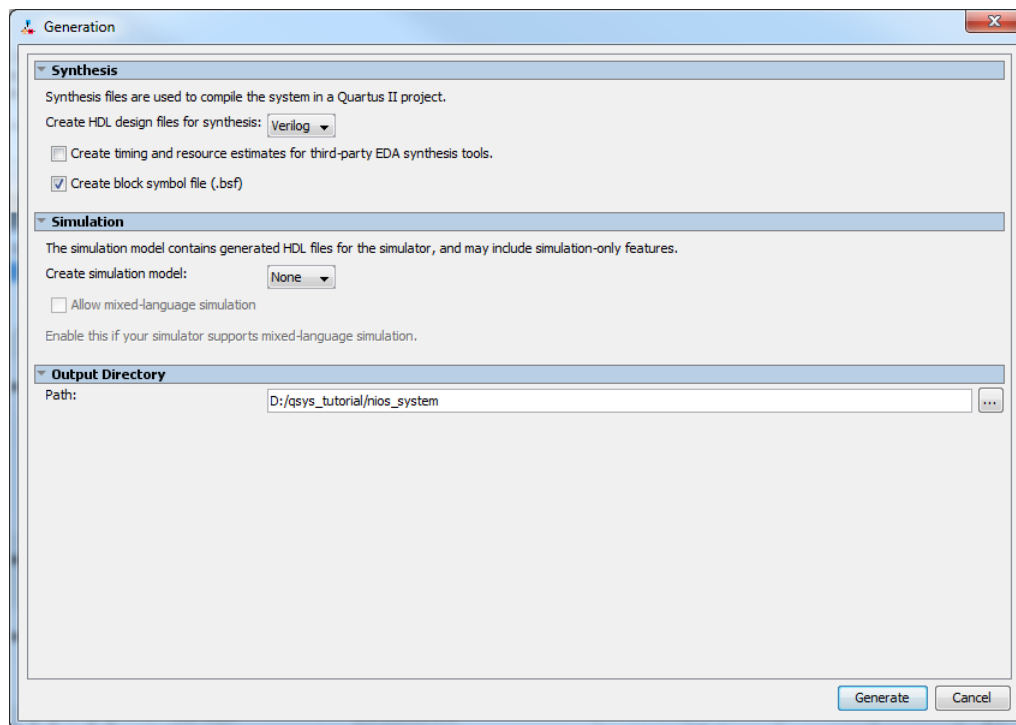

Figure 20. Generation of the system.
- Having specified all components needed to implement the desired system, it can now be generated. Save the specified system; we used the name *nios\_system*. Then, select **Generate > Generate HDL**, which leads to the window in Figure 20. Select **None** for the options **Simulation > Create simulation model** and **Testbench System > Create testbench Qsys system**, because in this tutorial we will not deal with the simulation of hardware. Click **Generate** on the bottom of the window. When successfully completed, the generation process produces the message “Generate Completed”.